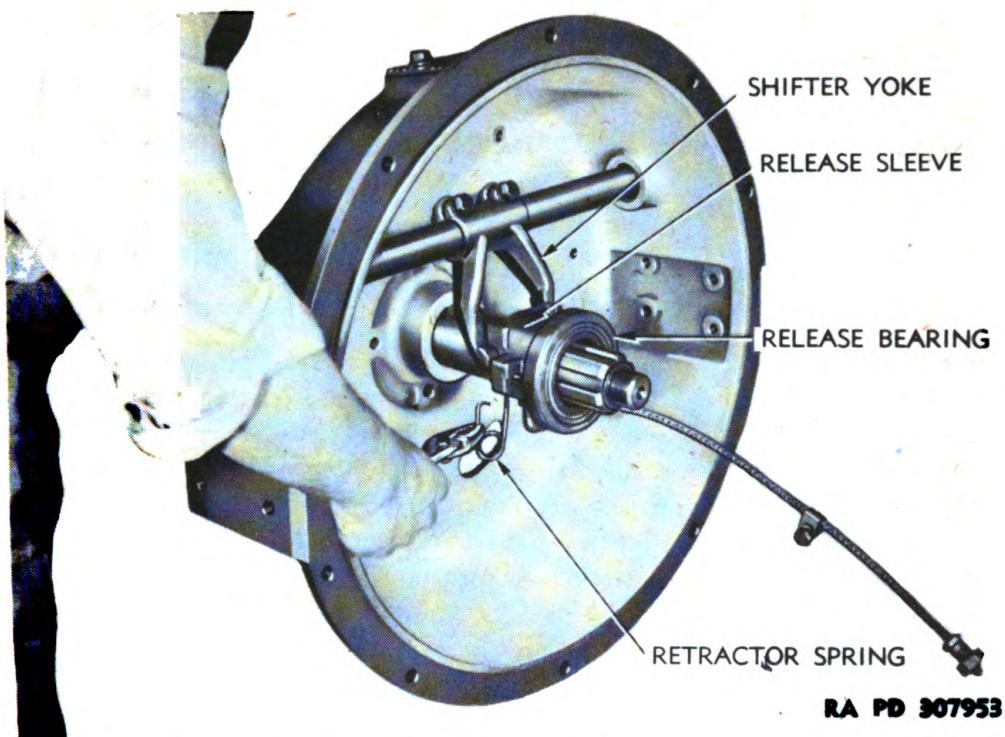

Figure 146 – Removing Clutch Shifter Retractor Springs
(1) REMOVE RELEASE SLEEVE AND BEARING ASSEMBLY. Remove jam nut from clutch release bearing lubricating tube (fig. 155). This nut also holds lubricating tube support bracket to housing. Remove bolt from clip holding tube to inside of housing, then pull end of release bearing lubricating tube down out of top of housing. Unhook ends of retractor springs from ends of clutch shifter yoke and slide springs from release sleeve (fig. 146). Slide release sleeve and bearing assembly off clutch shaft.
(1) INSTALL LEVER ON CLUTCH SHIFTER SHAFT. Tap key into slot in end of lever. Align slot in lever with key and tap lever onto shaft until end of shaft and lever are flush (fig. 146) and tighten clamp screw.
(4) **INSTALL RELEASE SLEEVE AND BEARING ASSEMBLY.** Slip assembly onto clutch shaft with bearing towards end of shaft (fig. 146). Make sure sleeve slides freely on shaft. Insert straight ends of retractor springs up through holes in sides of release sleeve until other end can be hooked into holes in back of ends of shifter yoke. Insert end of release bearing lubricating tube up through hole in upper part of housing (fig. 155). Place tube support bracket over end of tube, then install and tighten jam nut on tube. Attach pipe clip on tube to inside of housing with cap screw and lock washer. Insert end of clutch shaft bearing lubricating tube up through bracket and install jam nut. Fill bearing with lubricant through these tubes.